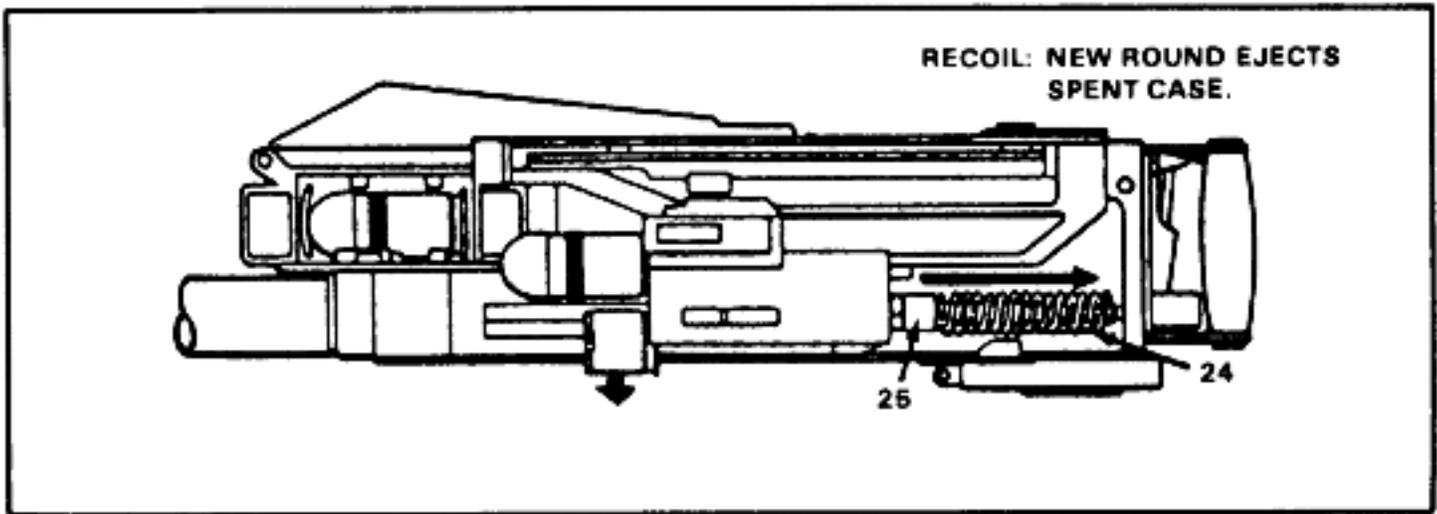

Figure 2-29. Blowback and automatic feed.
e. Blowback and Automatic Feeding Cycle. The gases from the burning powder force the bolt, with a new round in its extractors, to the rear. During this blowback, several things happen at once: the curved rail of the vertical cam delinks and forces down the new round on top of the spent case, forcing the spent case out of the bolt fingers and ejecting it out the bottom of the gun; the feed slide assembly pulls the rounds to the right in the receiver ammunition-feed area, where a new round is ready to pick up (automatic feed). During the bolt's travel to the rear, the cocking lever is pushed forward, which cocks the firing pin. When the bolt reaches the limit of its rearward travel, the recoil springs (24) are completely compressed. The bolt buffers (25) absorb over-travel, reducing trunnion load (recoil force) at the gun-mount attaching points. The bolt sear will not engage the receiver sear if the trigger is still depressed, and another firing cycle occurs. Release of the trigger causes the bolt sear to engage the receiver sear, which prevents the bolt from going forward, and firing stops (Figure 2-29).